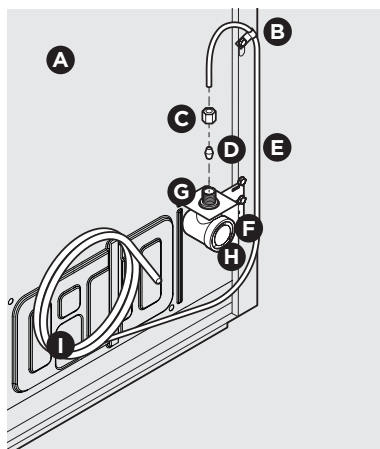
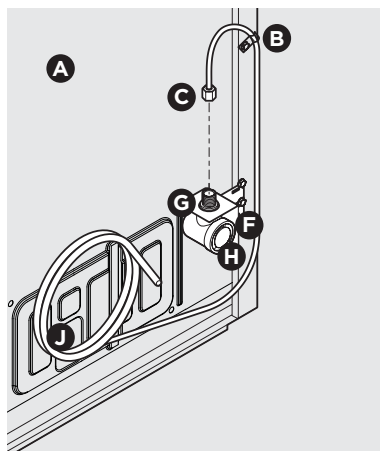

Figure 1
Figure 2
4. If you use **copper tubing** - Slide the brass compression nut, and then the ferrule (sleeve) onto the water supply line. Push the water supply line into the water valve inlet as far as it will go ($\frac{1}{4}$ "/6.4 mm). Slide the ferrule (sleeve) into the valve inlet and finger tighten the compression nut onto the valve. Tighten another half turn with a wrench; DO NOT overtighten. See Figure 1.
If you use **braided flexible stainless steel tubing** - The nut is already assembled on the tubing. Slide the nut onto the valve inlet and finger tighten the nut onto valve. Tighten another half turn with a wrench; DO NOT overtighten. See Figure 2.
| B | Steel Clamp (Fig. 1: $\frac{1}{4}$ "; Fig. 2: $\frac{1}{2}$ ") |